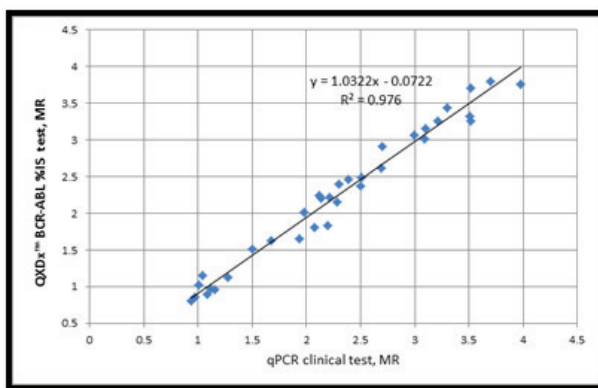

Figure 17: Clinical Performance
Thirty-four (34) clinical specimens were collected and processed at an independent clinical laboratory in Europe. Standard lab procedures were followed for sample processing and analysis by the lab developed qPCR test, which was calibrated to the WHO IS standard. The QXDx BCR-ABL %IS test was performed in 4 wells. Analysis of the data was performed both in 4-well and in 6 2-well pairs (format is shown in Figure 17). Reproducibility assessed from the 6 2-well replicates was excellent, with maximum %CV of 46% (in %IS space) for the specimen near MR4.0, comparable with the values from the analytical reproducibility studies.